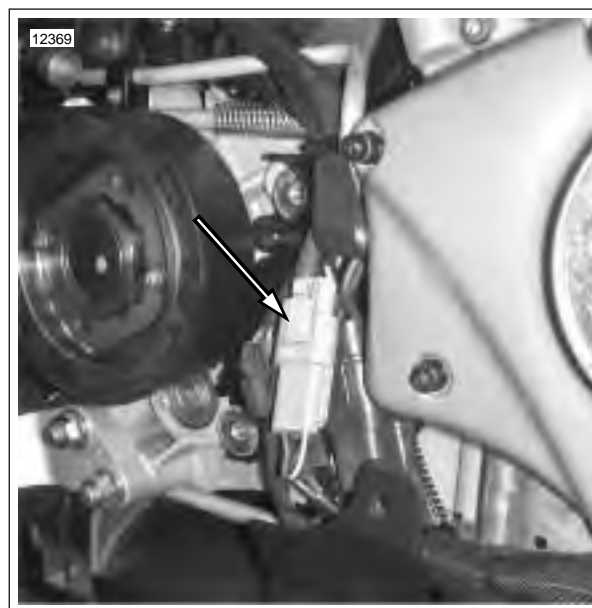

Figure 7-77. Vehicle Speed Sensor Connector [65]
1. See Figure 7-77. Locate the 3-place vehicle speed sensor connector [65] under the sprocket cover. See 2.34 SPROCKET COVER.
1. See Figure 7-77. Disconnect vehicle speed sensor connector [65]. Attach speedometer tester connector to vehicle speed sensor connector.